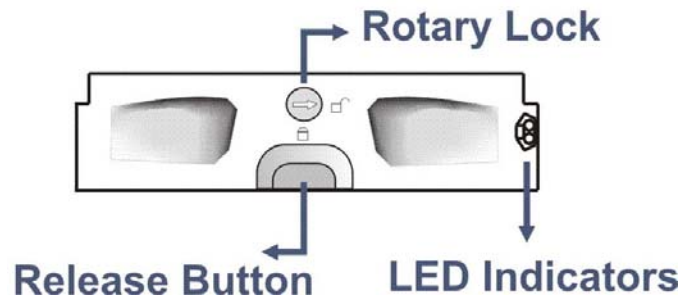

Figure 2-3: Front View of an Individual Drive Tray
**Step 1.** *Make sure the rotary bezel lock is in the unlocked position, i.e., the groove on its face is in a horizontal orientation as shown in **Figure 2-3**. If the groove is in a vertical position, then the rotary lock prevents the front flap on the drive tray from opening.*